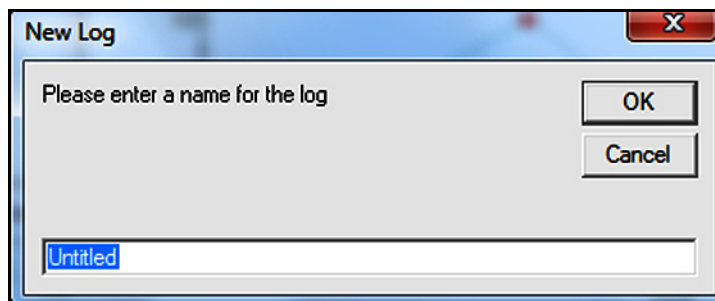

Figure 82: Log Name Dialog Box
6. Enter a log file name ("*Untitled*" is used here) in the dialog box shown in *Figure 82* below. Click [OK] button.